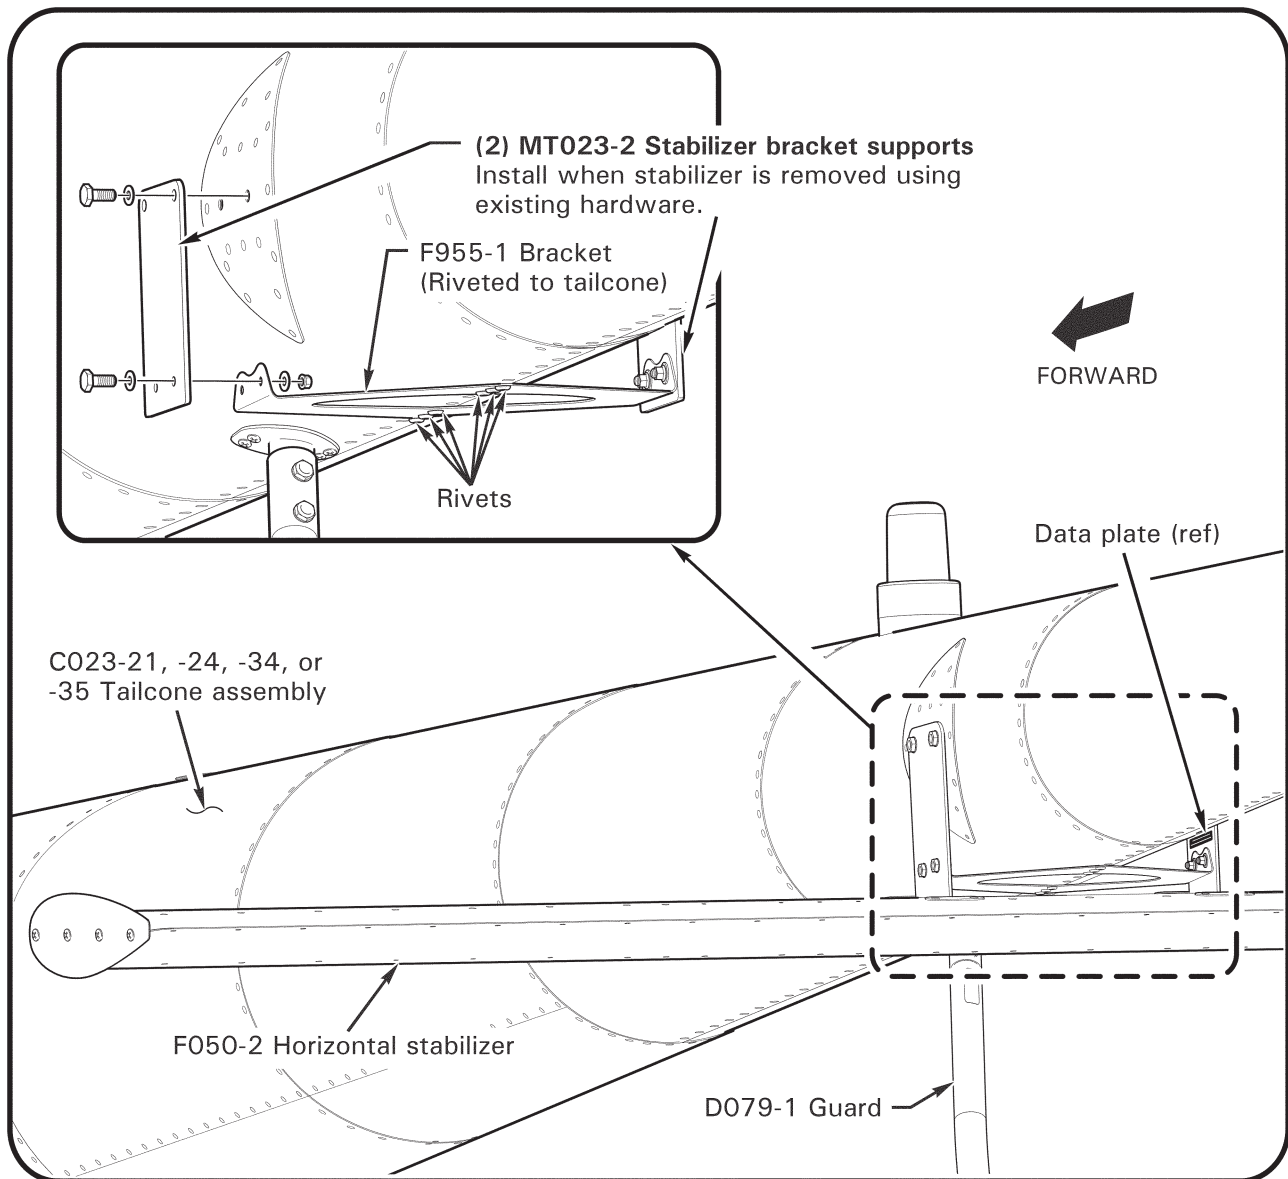

FIGURE 53-6 F050-2 HORIZONTAL STABILIZER ASSEMBLY
1. Refer to Figure 53-6. Remove hardware securing F050-2 horizontal stabilizer assembly to F955-1 or -6 bracket.